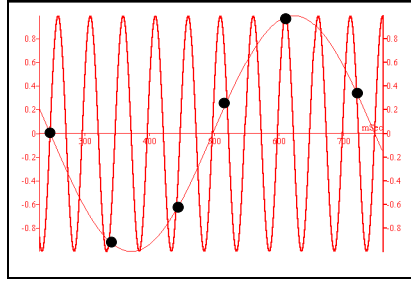

Figure 6: Frequency Aliasing
**Note:** Sampling at a rate slower than the expected rate can cause "frequency aliasing". In such a case, the graph will show a frequency much lower than expected. In Figure 6 below, the higher frequency sine wave was sampled at 1/3 of its frequency. Connecting the sampled points yielded a graph with a lower, in correct frequency.